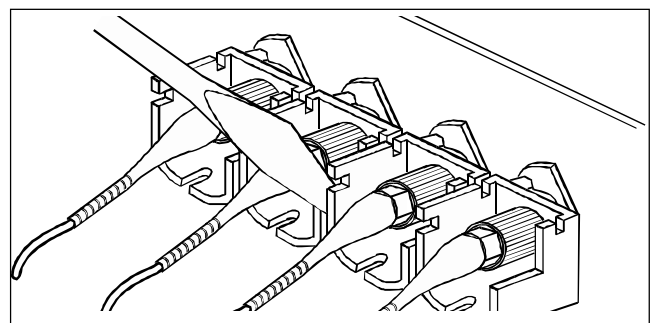

Figure 13
11.4 You can remove the connector sleeve retainer by pressing on its sides and pulling out. If that will not release it easily, use a flat-blade screwdriver to release the connector sleeve retainer. To do this, slide the blade of the screwdriver under the retainer and twist it until the retainer snaps up (Figure 13).